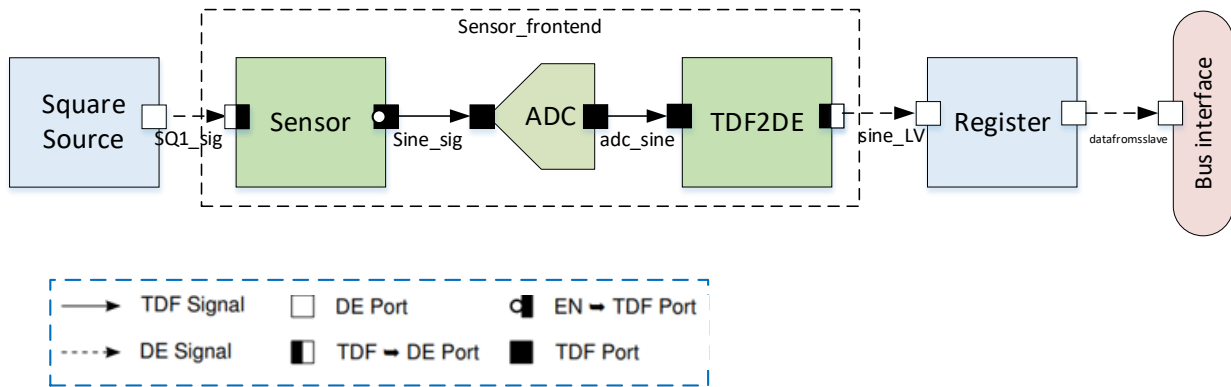

Figure 2: Sensor package
Figure 2 shows the sensor package. This package includes an input source module, a sensor frontend, and a register to store the digital data.
b. Sensor : This sensor is a lowpass filter that generates a sine wave from its input square wave. As shown in Figure 2, this filter receives a DE input, and the output is a TDF signal. Use the necessary input and output data types. For the output you need an eln:tdf voltage sink. Select a value for resistor and capacitor and report these values.